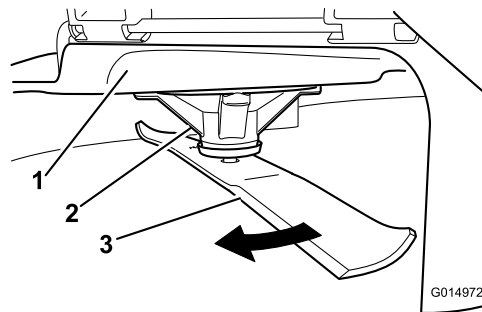

Figure 44
2. While wearing thickly padded gloves, or other adequate hand protection, slowly rotate the blade to be measure into a position that allows effective measurement of the distance between the cutting edge and the level surface the machine is on (Figure 44).